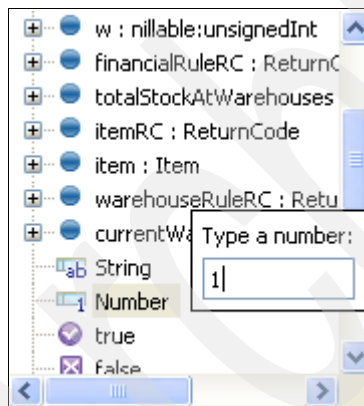

Figure 3-202 Set numeric value from context menu
d. At the **Type a number** prompt, enter 1 (as shown in Figure 3-202), and then press Enter.